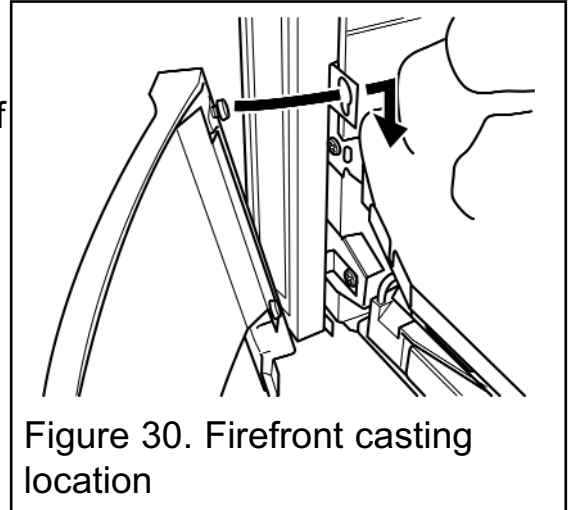

Figure 30. Firefront casting location
1. There are two screws located on the upper rear face of the firefront casting. Locate the two screw heads through the keyhole slots at the inner sides of the fascia. If the screw heads do not project enough or project too far, the screws can be adjusted. Lower the firefront casting so that it rests on the hearth. See figure 30.